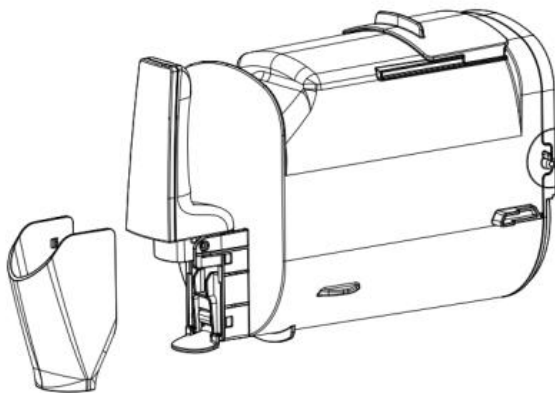
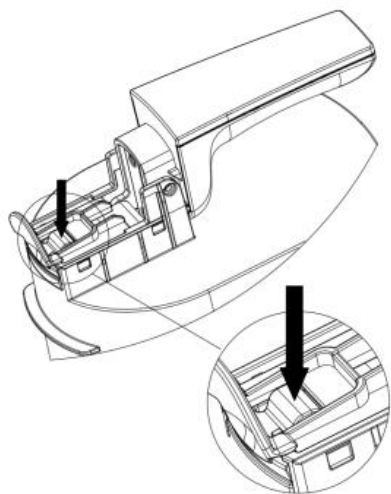
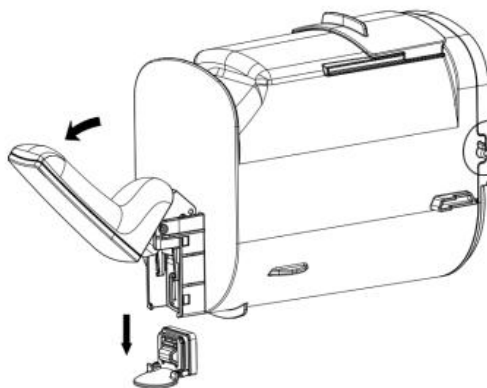

Figure 4
Figure 5
Figure 6
3. Outlet port cleaning: Take out the outlet cover (Figure 4), press and hold the outlet bracket fastening position (Figure 5), then open the barrel handle, and then take off the outlet assembly (Figure 6), clean it, and put it back in the order of disassembling and assembling.